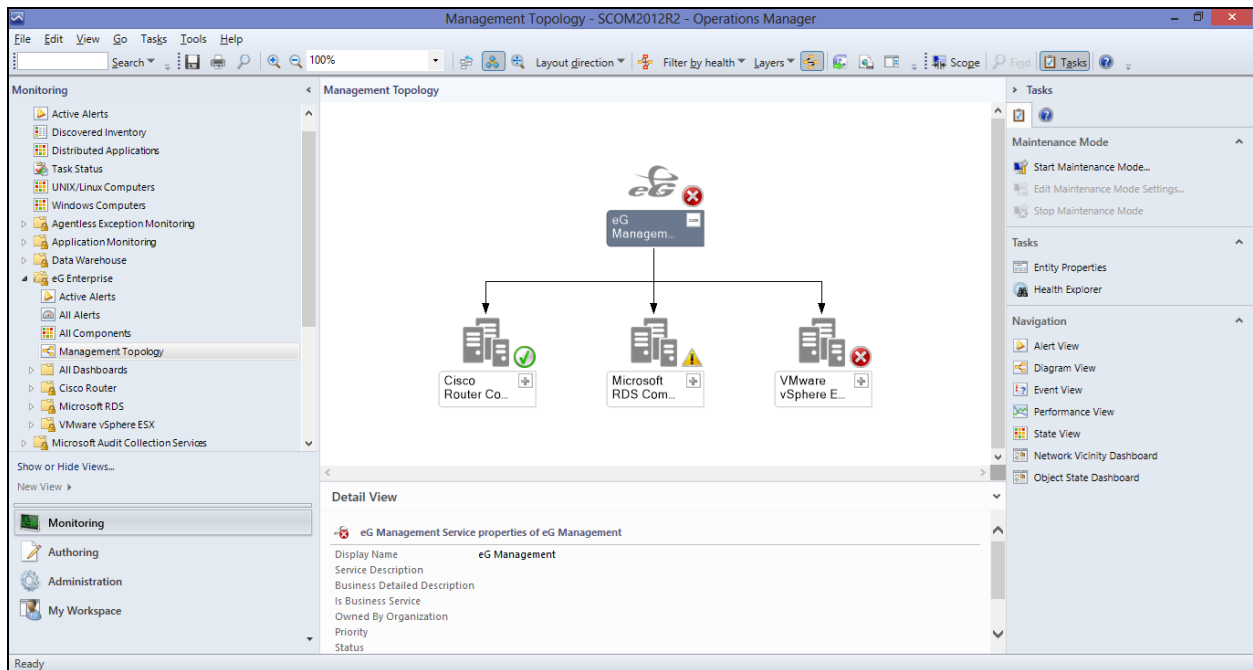
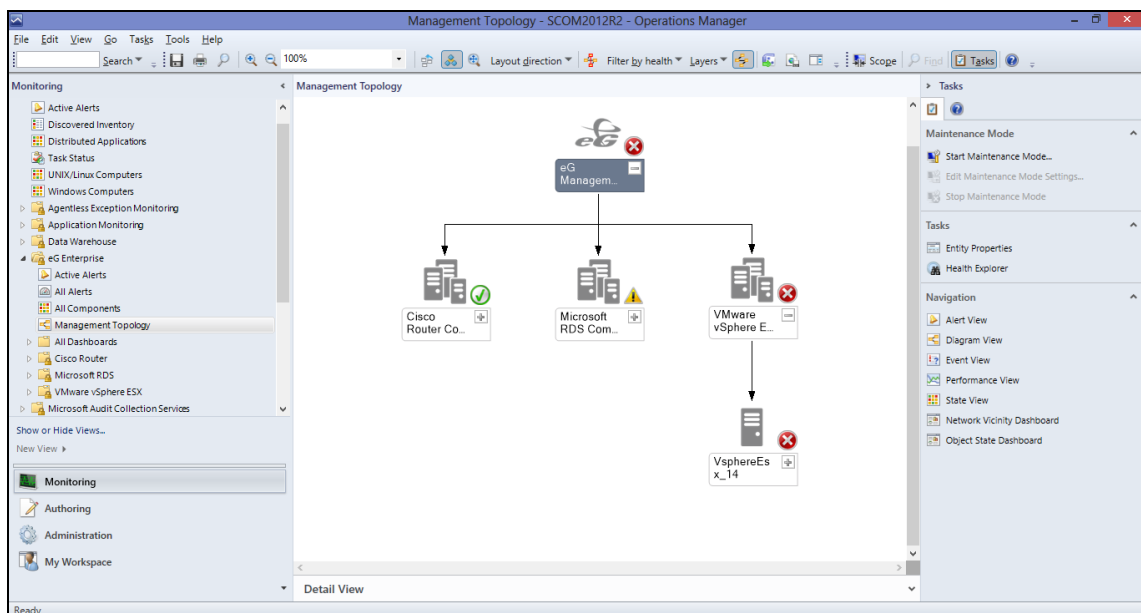

Figure 3.10: The Management Topology of the eG-managed infrastructure
Figure 3.11: Drilling down from the high-level topology view to know which VMware vSphere server is in a Critical state
- Click the **Management Topology** node below the **All Components** node (see Figure 3.10). The right panel will then display the topology representation depicted by Figure 3.10. From the topology, it is clear that the eG-managed infrastructure is currently in a Critical state, because one of the servers in the infrastructure – namely, the VMware vSphere server – is experiencing Critical issues.
2. You can also drill-down from the high-level topology view of Figure 3.10 to identify the vSphere server that is experiencing the Critical issues and to zero-in on the precise problems that are impacting this server's performance. For this click on the '+' icon alongside *VMware vSphere ESX* in Figure 3.10. Figure 3.11 will then appear.
3. Figure 3.11 reveals that the vSphere server, *VsphereEsx_14*, is the only vSphere server that is managed in the environment, and is currently in a Critical state. To identify the exact layer where the Critical issue occurred,